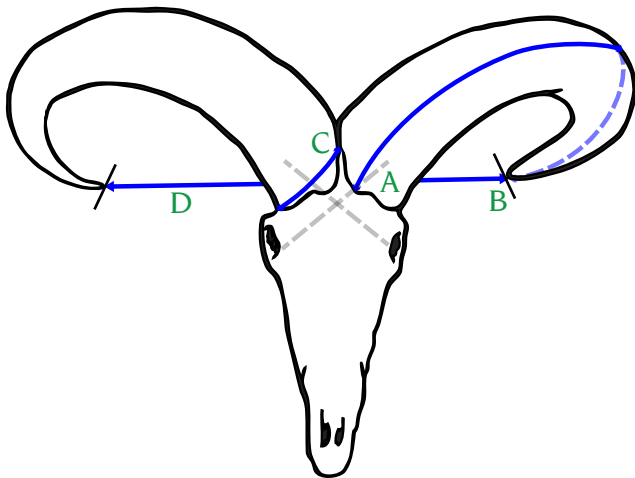
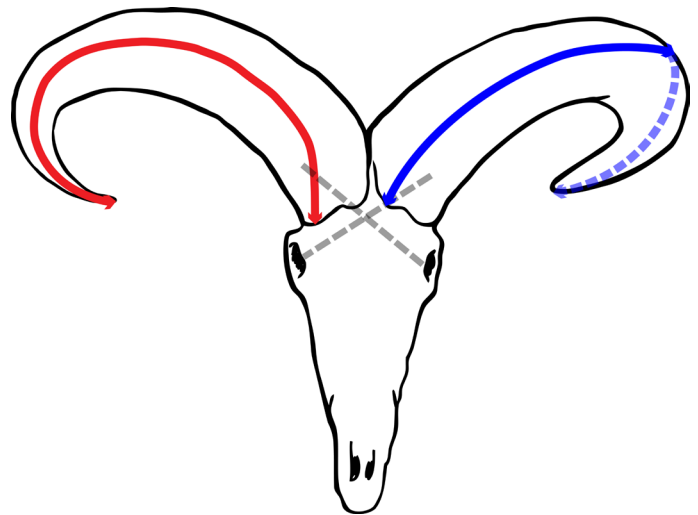

Figure 1 Aoudad
Figure 2 Aoudad
1. Length. Measure the length of each horn on the front curve (in the center of the horn) to the tip. (Figure 1, A–B) Start the length measurement on the front of the base at the point of the horn closest to a line drawn from the center of the eye socket on the opposite side of the skull. (Figure 2). Do not measure from the lowest point of the horn near the eye socket on the same side of the skull. (Figure 2). Keep following the grain till you reach the end. With an aoudad (and many tur) the arc of the length measurement will more or less form a half-moon shape. However, with a truly magnificent tur trophy, the horn tips will point upward. To measure the length of the horn of such a tur, start the tape on the front center of the horn in line with the eye socket on the opposite side of the skull, curve over the horn, arrive under the horn, and eventually point straight up. If the tip is broken, card off. (See general instructions.)
2. Circumference. Measure the base of each horn. (Figure 1, C) The tape must form a continuous loop and be parallel to the base of the horn itself, albeit not necessarily at a 90-degree angle to axis to the horn. Do not measure anything but horn material—no hair, taxidermist filler, etc.—and do not press the tape into depressions.